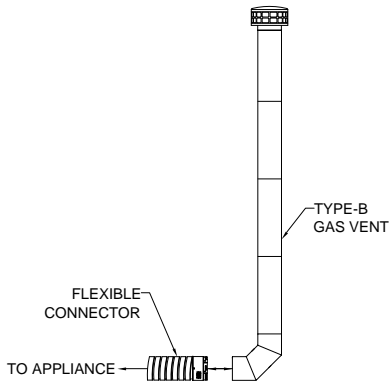

FIG. 2
- b. Inlet of the Type-B gas vent system (See FIG. 2), or